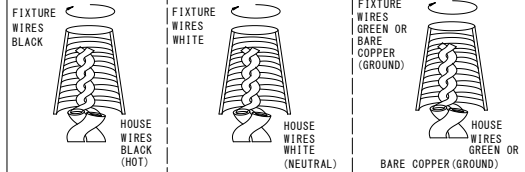

Fig. 3
7. Align back plate (G) onto screws (D) and secure with silicone gasket (J) and knurled knobs (H).
8. Attach (4) four square candle sleeves over sockets by pressing them onto socket cups.
9. Install (4) four candelabra base bulbs up to 60 watts or CFL or LED equivalent (Not included) in accordance with the fixture specification. **DO NOT EXCEED THE MAXIMUM WATTAGE RATING! (NE PAS DEPASSER LA PUISSANCE NOMINALE MAXIMALE!)**
10. To prevent moisture from entering the outlet box (C) and causing a short, use clear silicone sealant (i.e. Indoor/Outdoor Silicone Sealant) to outline the outside of fixture back plate (G) where it meets the wall leaving a space at bottom to allow moisture a means to escape. (Fig.3)